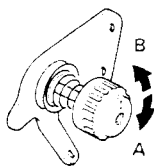

Fig. 36
- To shorten the length of thread end, turn pre-tension knob clockwise in the direction **A**. (Fig. 36)